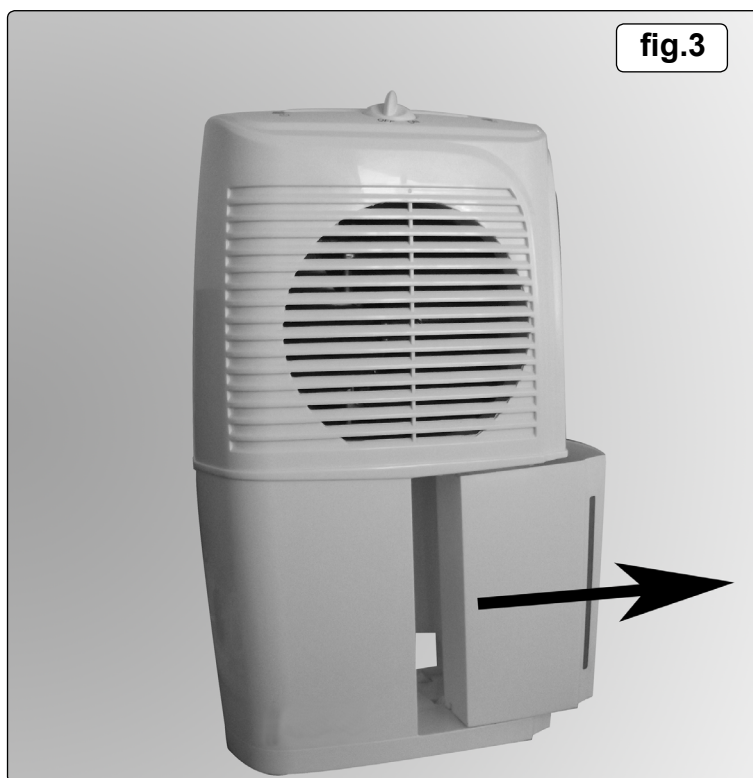

fig.3
- 4.3.3. To empty the drain tank switch the machine off and slide the tank out carefully, as in fig.3, and dispose of the water. **DO NOT** use the waste water for any other purpose.